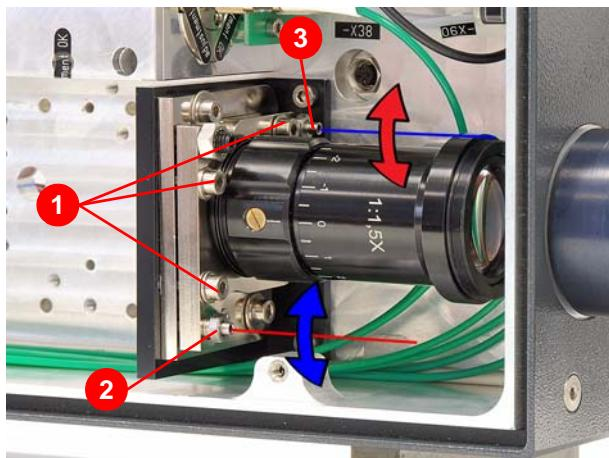

Figure 6.43 Angular setting of the beam expander
44. Loosen screws (1) (Figure 6.43) and adjust the angle of the beam expander using screws (2) in the horizontal direction and (3) in the vertical direction.
45. After the adjustment, tighten screws (1) by hand and carefully tighten screws (2) and (3).